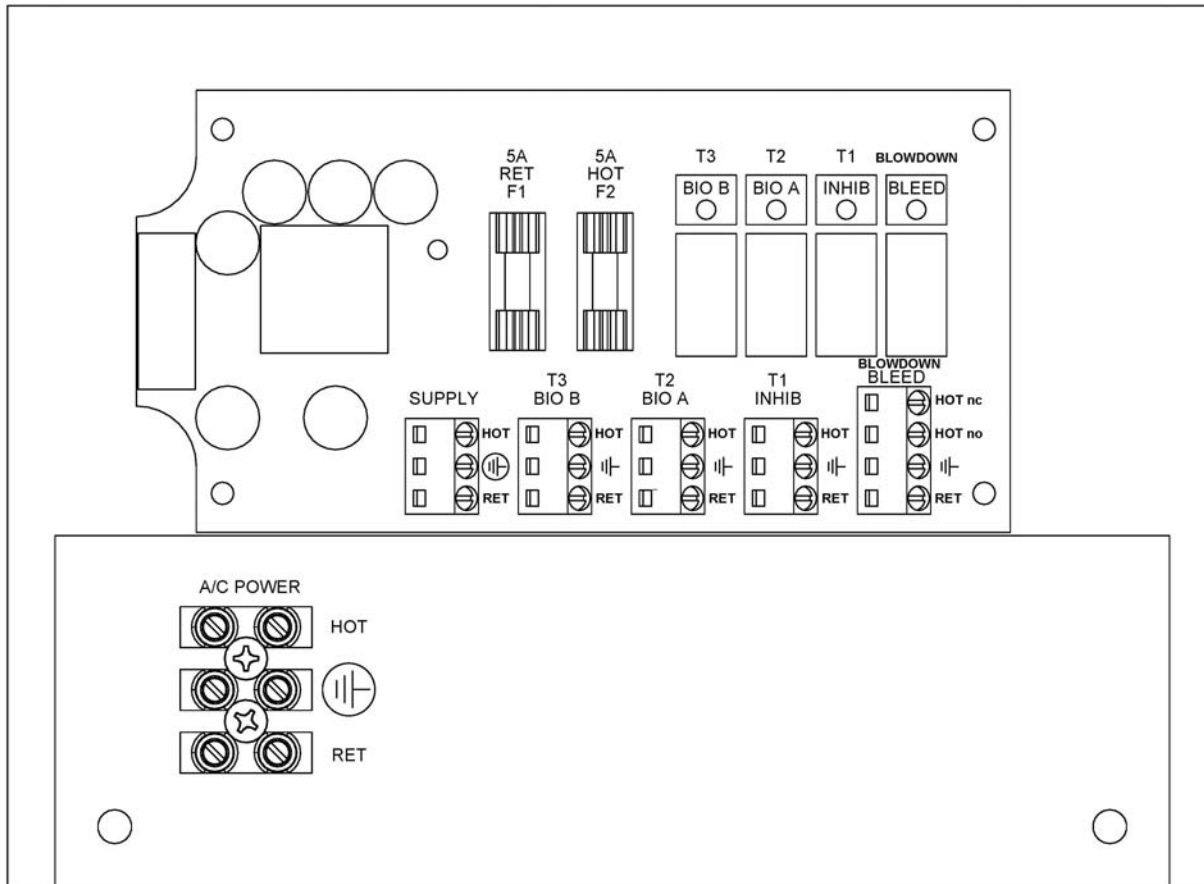

Fig. 6
The *MicroVision* electronic input circuitry is fuse protected on both the hot and neutral inputs using a replaceable five amp fuse (*Fig .6*).
Conduit controllers have openings for conduit connections for hard wiring. (See Fig. 6) for input and output power connections. Use only 18 AWG (1,2 mm²) stranded wire for conduit power and load connections. Supply (input) A/C power is connected via the terminal block located on the back panel marked "A/C Power" (Fig. 6). The top part of this terminal block is removable to allow for easy access to the connector's three (3) screws.